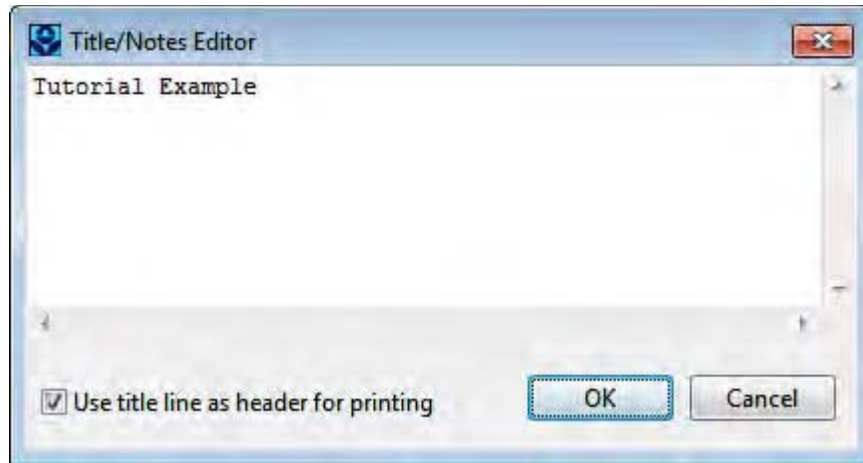

Figure 2-8 Title/Notes editor
2. In the Project Title/Notes dialog that appears (see Figure 2-8), enter "Tutorial Example" as the title of our project and click the **OK** button to close the dialog.